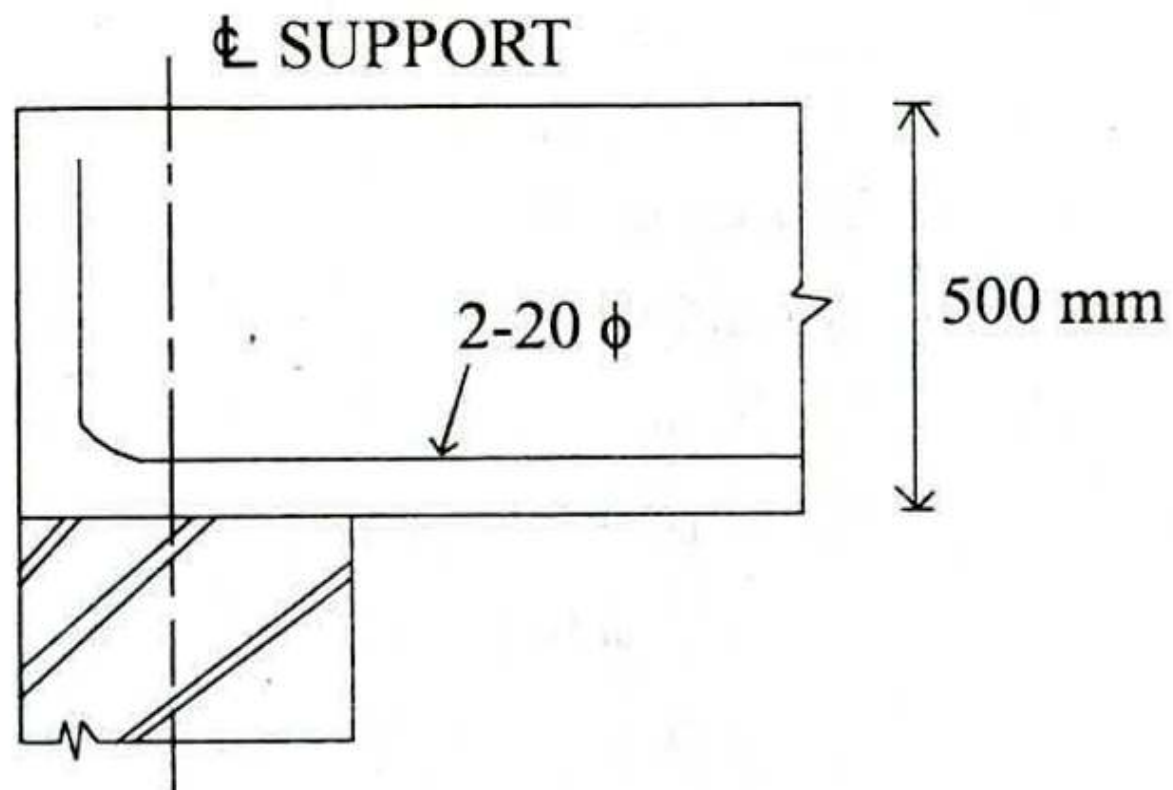

Fig. 4
- (b) A simply supported beam is 25×50 cm deep and has 2-20 mm Fe 415 grade steel bars going into the support shown in Fig. 4. If the shear force at the center of support is 110 kN at service loads, determine the anchorage length. Assume M20 mix. Bond stress for mild steel for M20 concrete is 1.2 MPa in limit state. Take clear cover to steel = 25 mm. 20